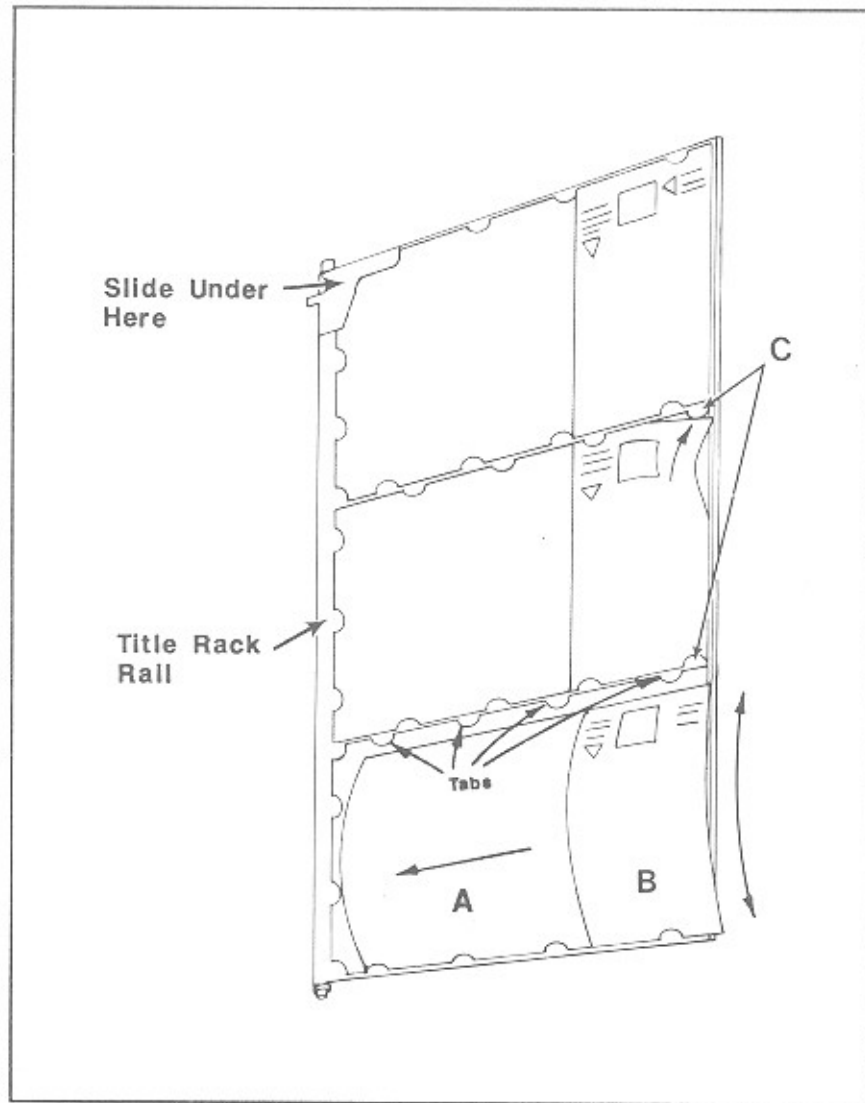

Figure 3-5. Loading the Title Rack
5. Insert the CD booklet under the top and bottom tabs of the title rack. Slide the CD booklet toward the pivot of the title rack until the booklet is trapped by the molded stops on the title page (see *figure 3-5, ref A*).
6. Insert the folded title strip under the top and bottom tabs of the title rack. Slide the title strip until the disc number shows in the opening of the title strip and the title strip is locked in place by the molded stops (see figure 3-5, ref B).
7. All of the tabs surrounding the CD booklet and title strip should be holding them in place. If you missed a tab, carefully tuck the loose paper under the tab as shown in figure 3-5, ref C.